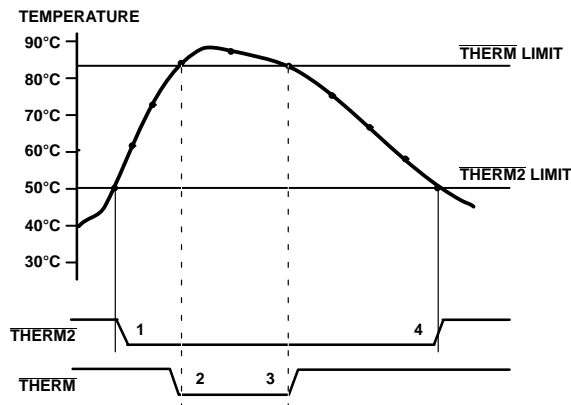

Figure 20. Operation of the $\overline{\text{THERM2}}$ and $\overline{\text{THERM}}$ Interrupts
Figure 20 shows how $\overline{\text{THERM}}$ and $\overline{\text{THERM2}}$ operate together to implement two methods of cooling the system. In this example, the $\overline{\text{THERM2}}$ limits are set lower than the $\overline{\text{THERM}}$ limits. The $\overline{\text{THERM2}}$ output is used to turn on a fan. If the temperature continues to rise and exceeds the $\overline{\text{THERM}}$ limits, the $\overline{\text{THERM}}$ output provides additional cooling by throttling the CPU.
- The $\overline{\text{THERM}}$ output deasserts (goes high) when the temperature falls to $\overline{\text{THERM}}$ limit minus hysteresis. In Figure 20, there is no hysteresis value shown.